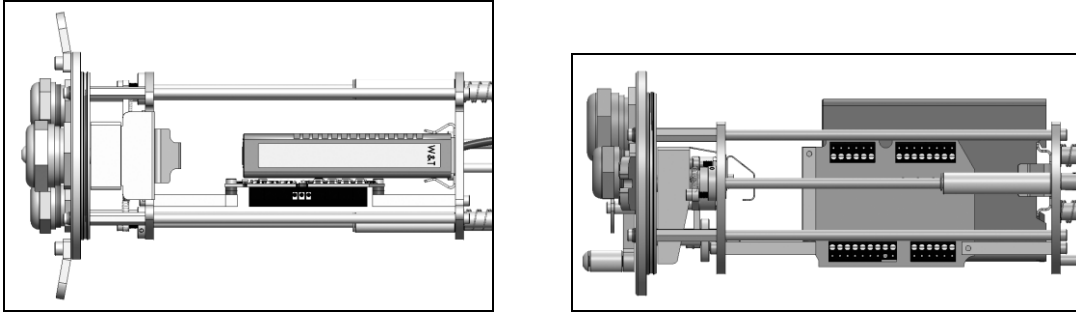

Figure 34 (a + b): Fitting the USB server Gigabit into the chassis (top view and right hand view)
6. Engage the USB server Gigabit to the DIN rail plate (**Figure 34**).